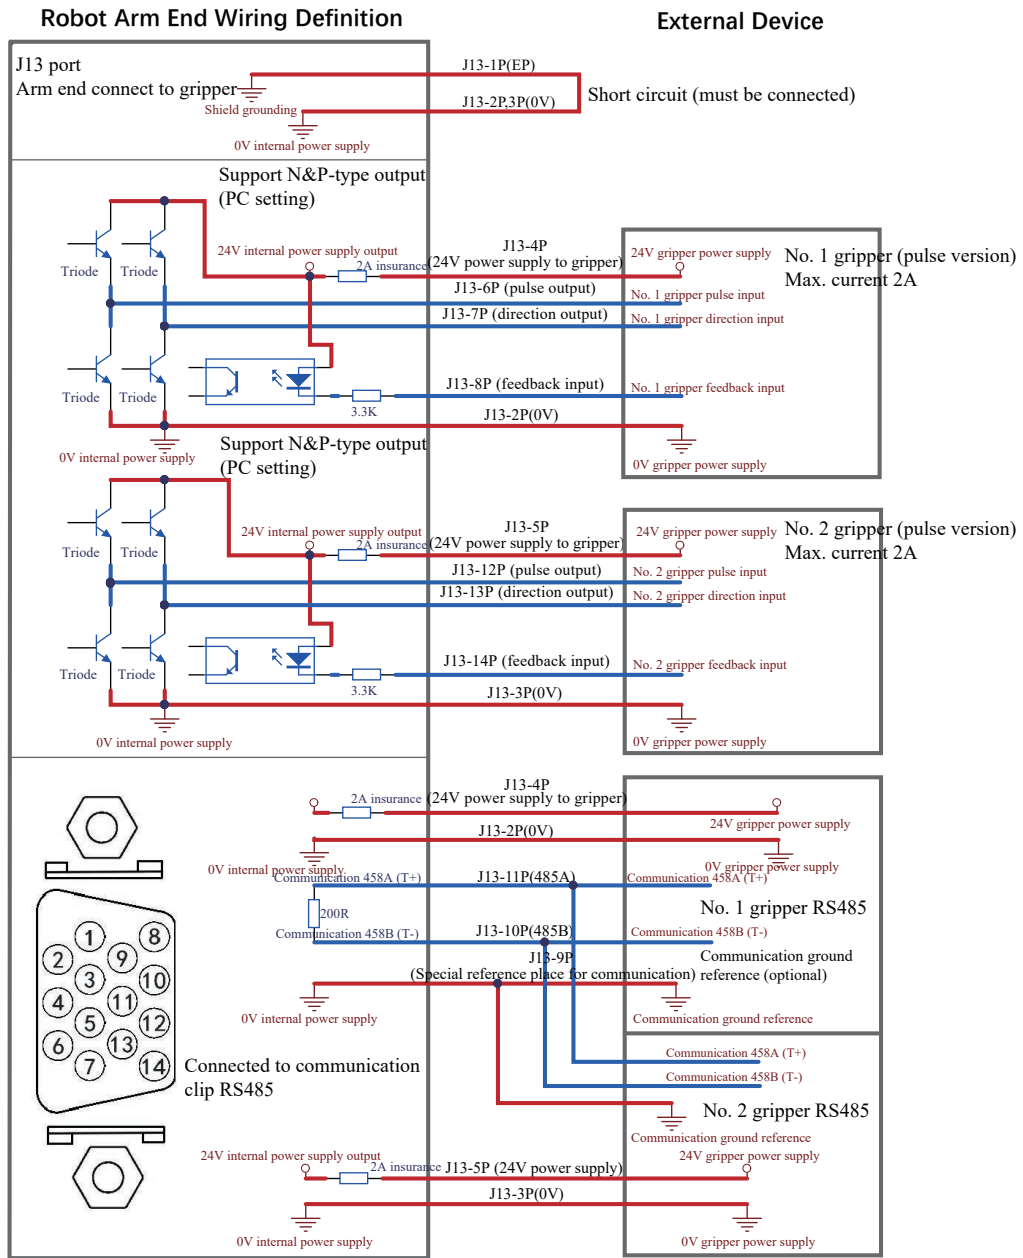

Figure 6
8. J13 interface DB9 male sock with needle pin definition (as shown in Figure 6)